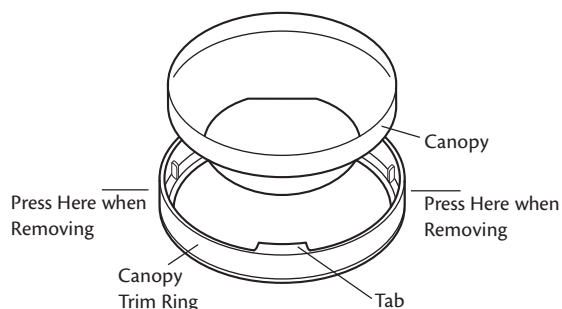

Figure 21 - Canopy trim ring
1. To easily install the canopy trim ring, locate the two tabs on the canopy trim ring. See Figure 21.
2. Take both hands and push the canopy trim ring up to the top of the canopy. See Figure 21.